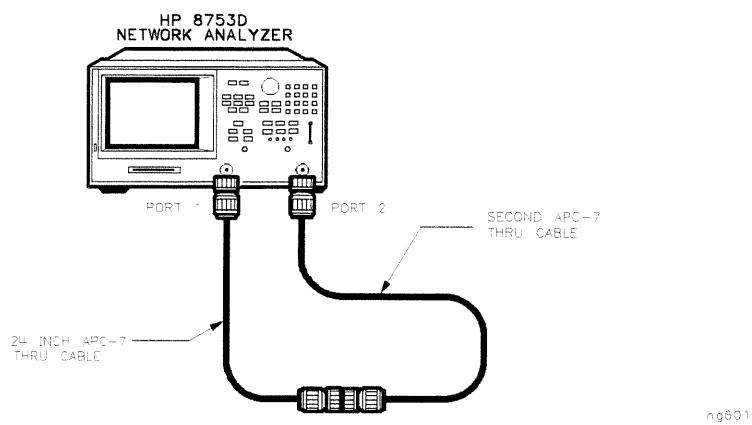

Figure 3-5. Second Connections for Insertion Loss Measurement
14. Make the connections as shown in Figure 3-5.